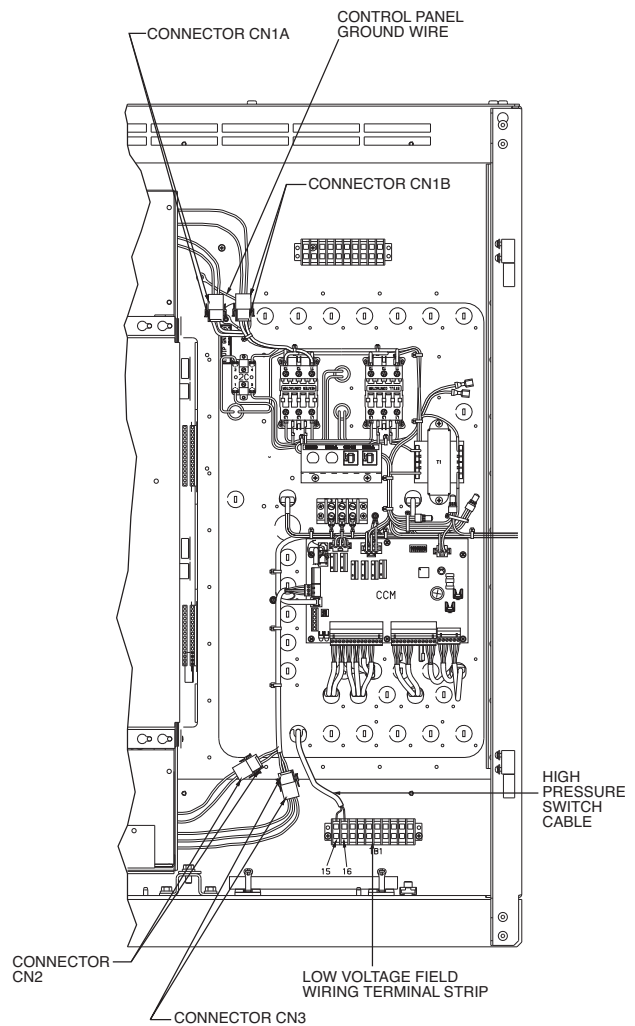

Fig. 26 — Control Panel Connectors (R,Q Units with LF-2 VFD)
9. Unplug connectors CN1A, CN1B, CN2, and CN3 (Fig. 26 and 27).
10. Disconnect the control panel ground wire located next to connectors CN1A and CN1B (see Fig. 26 for all compressors).